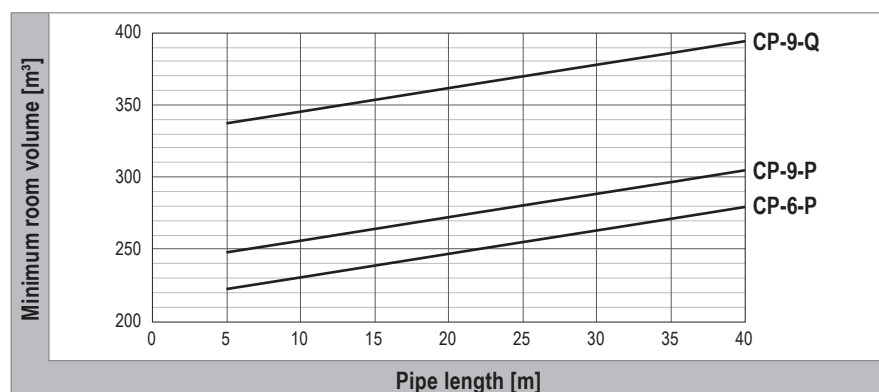

Fig. B4: Minimum room volume depending on the total refrigerant charge in accordance with EN 378
- The room volume corresponds to the minimum values shown in Fig. B4 meaning that the permissible QLMV value is not exceeded.